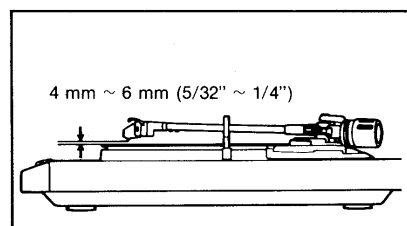

Fig. 13
- ★ Be sure to adjust the arm lift height. (Refer to page 5 Fig. 13.)
The arm-lift height (distance between the stylus tip and the record surface when the cueing control is at the "▼" position) has been adjusted at the factory to approximately 4 to 6 mm (5/32" ~ 1/4"). (Fig. 13)